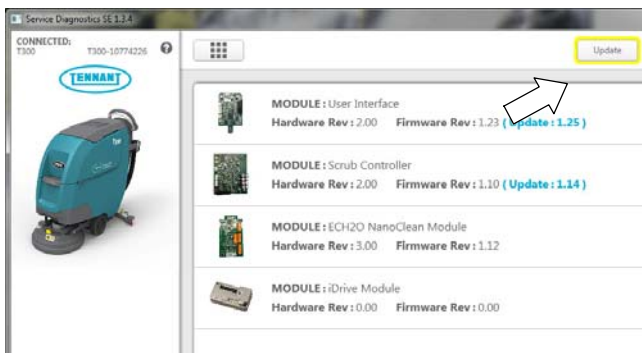

Fig. 5
- Once connected, the home screen will appear (Figure 5). Before programming the new drive module, first check if any firmware updates are required. The "Firmware" button will be highlighted in yellow if updates are required. Press button to update firmware (Figure 5).